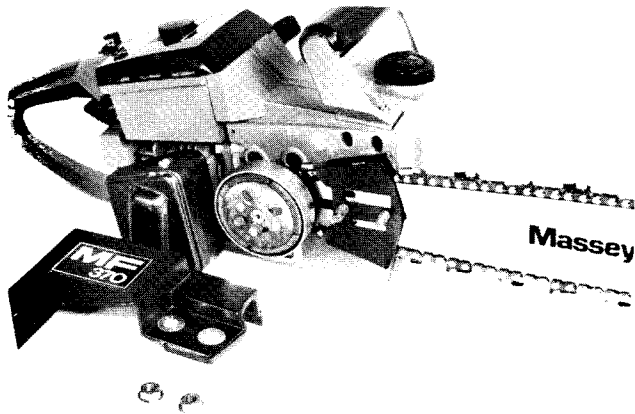

Fig. 23 — Chain Guide Bar Nuts and Guard Removed
1. Remove chain shield, guide bar and chain, Fig. 23.